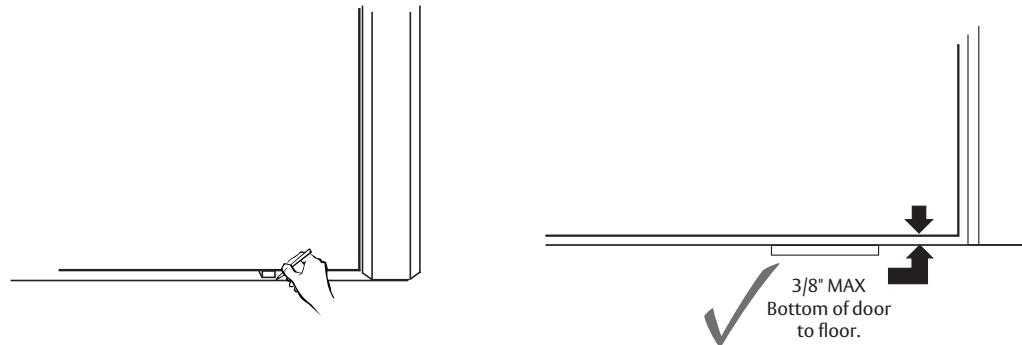

Figure 7
- Open the door and place the strike over the bottom bolt location. Mark the location of the bottom strike pocket and hole locations. (Figure 7)